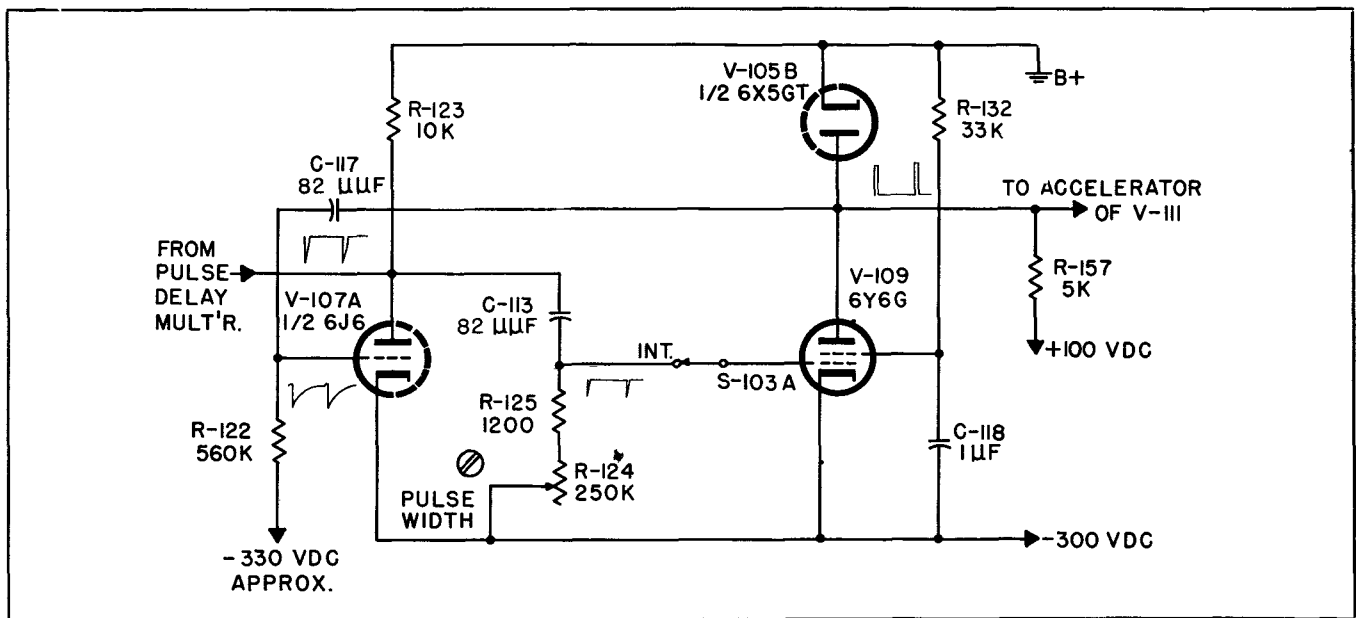

Figure 3-14. Signal Width Multivibrator
e. SIGNAL WIDTH MULTIVIBRATOR. — V-109 acts with V-107A as the Signal Width Multivibrator (figure 3-14). The function of this multivibrator is to generate
On internal modulation the negative pip obtained from the Delay Multivibrator is applied to the grid of V-109 (figure 3-14). V-109 operates with V-107A as a one-shot multivibrator, the duration of its pulse being controlled by C-113 and the resistance in the grid circuit including R-124, the PULSE WIDTH control. R-124 is a 250,000-ohm potentiometer connected as a variable resistor and provides a range of control from approximately 0.5 to 10